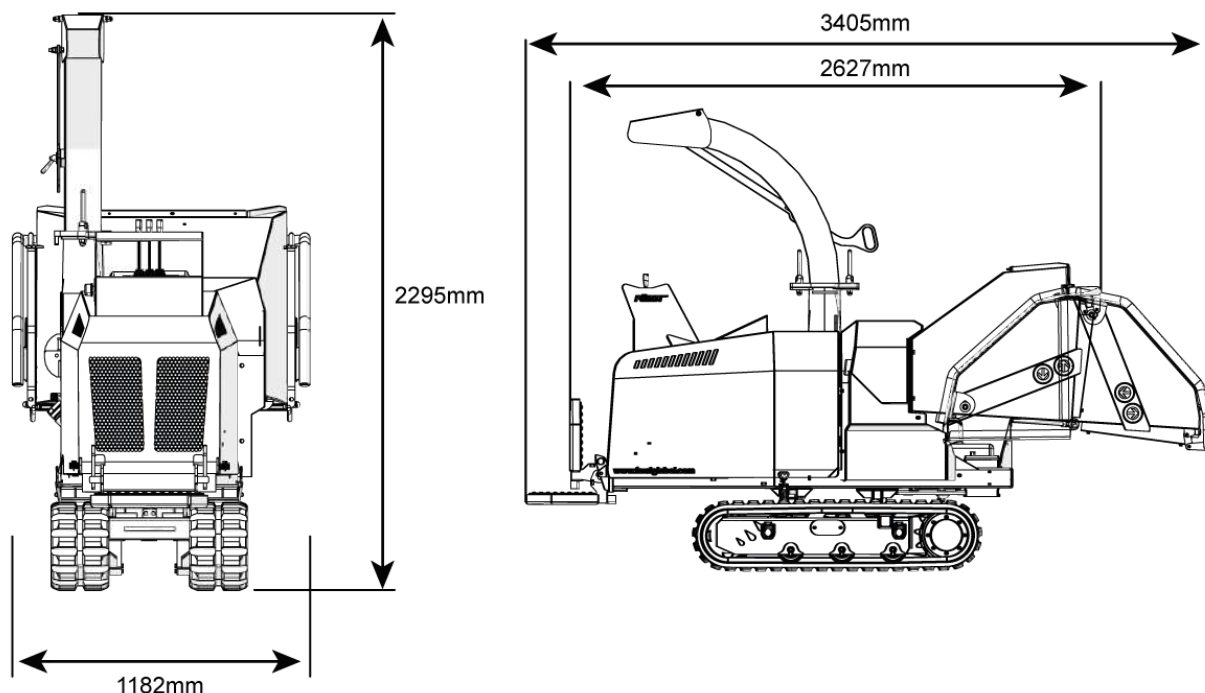

Figure 2 - Dimensions
- (3, Figure 2) A reference to item 3 in Figure 2.